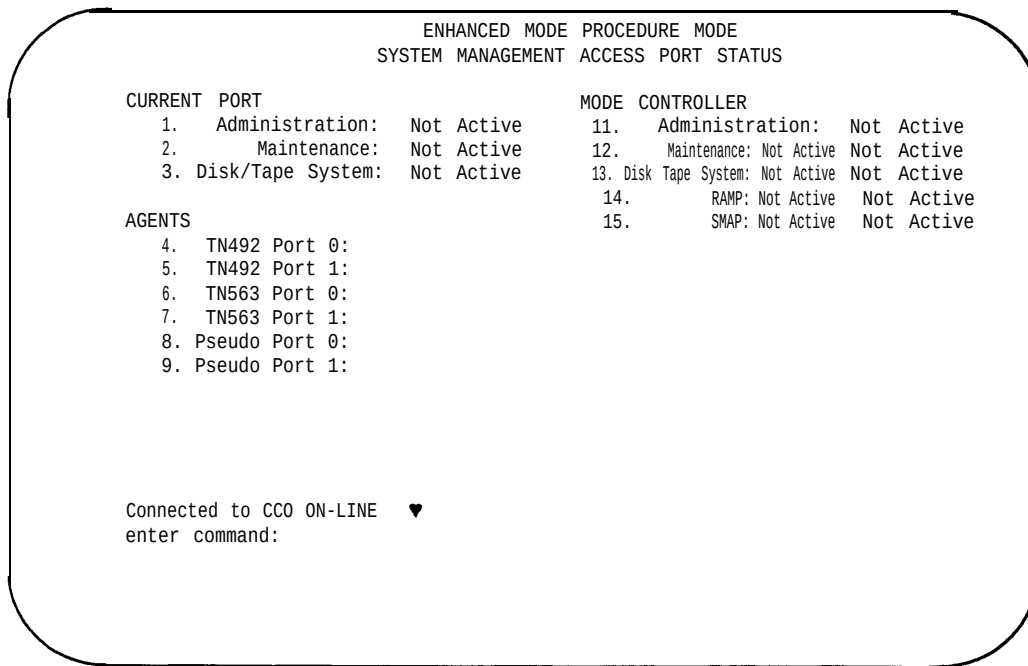

Figure2-2. ModeScreen
Use `m` to specify the communications system mode for which you are in contention. Mode specification is only for Generic 2 and System 85s release R2V3 or later. The three modes that can be requested are the administration mode (1), maintenance mode (2), and tape mode (3). Enter `m` and then any digit between 1 and 3 to toggle the corresponding mode between off and on (0 and 1). Enter `m` alone (without any arguments), to display the current modes. A screen resembling Figure 2-2 appears. If the displayed mode has a value of 1 it is active; if it has a value of 0, it is inactive.